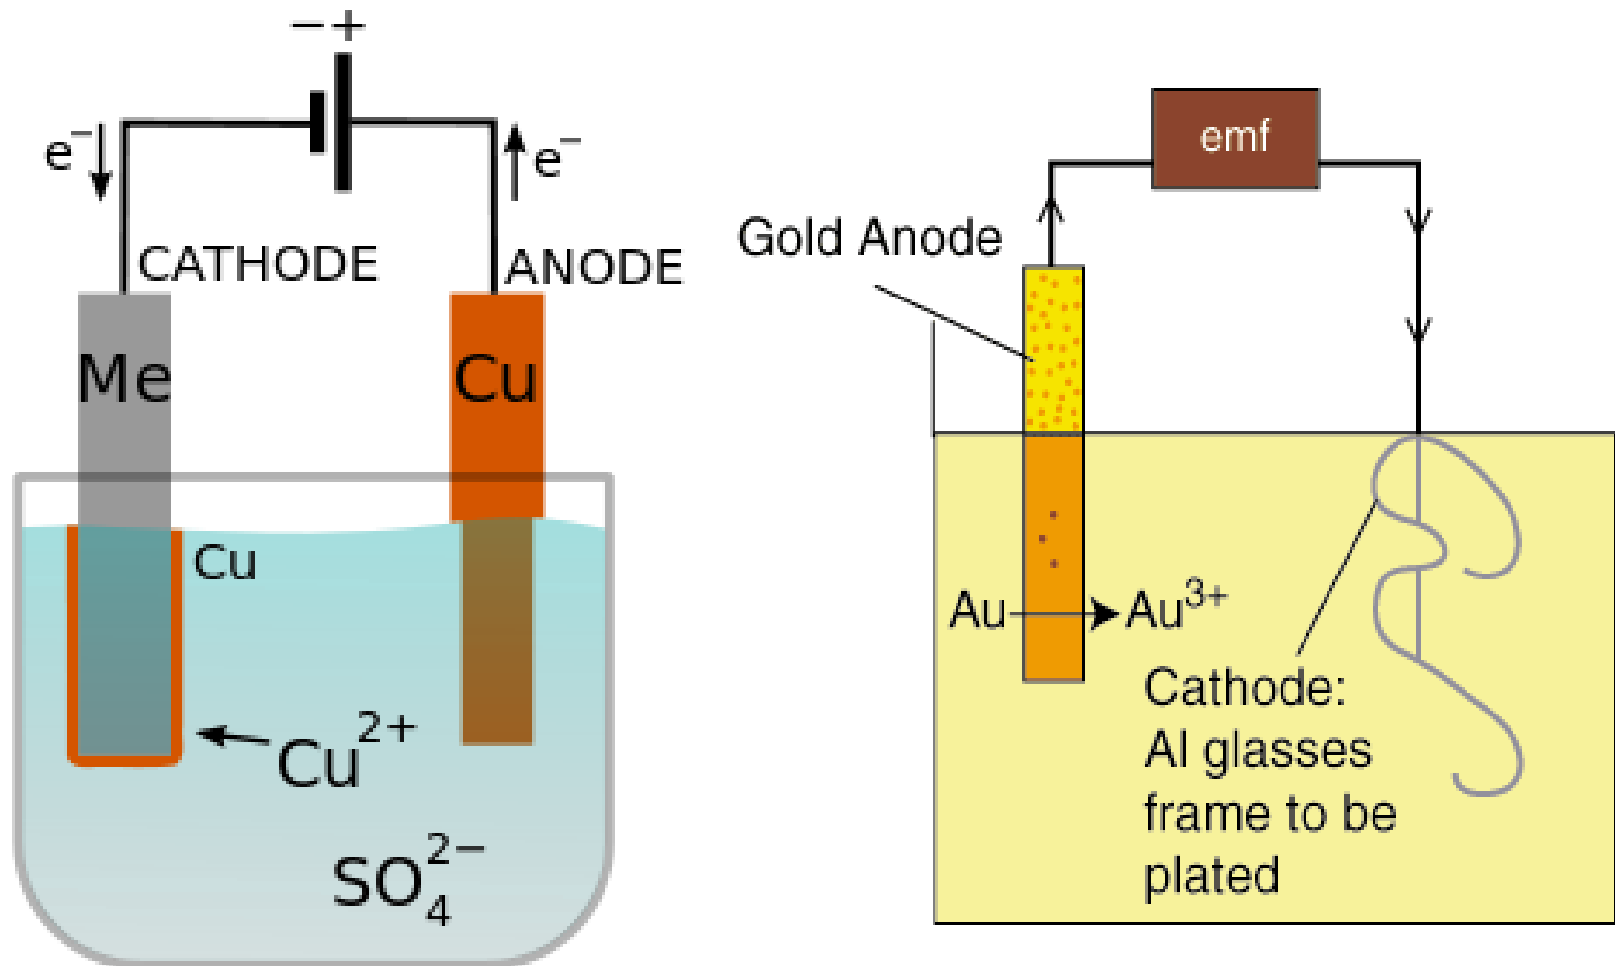

Figure 5.5: Simple electroplating cells
- The cell anode is often a bar or other shape of the metal to be plated from solution, so that the anode reaction of metal dissolution replaces the metal ion consumed from solution by cathodic deposition (**see Figure 5.5**).